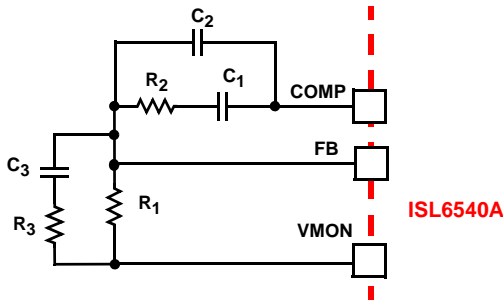
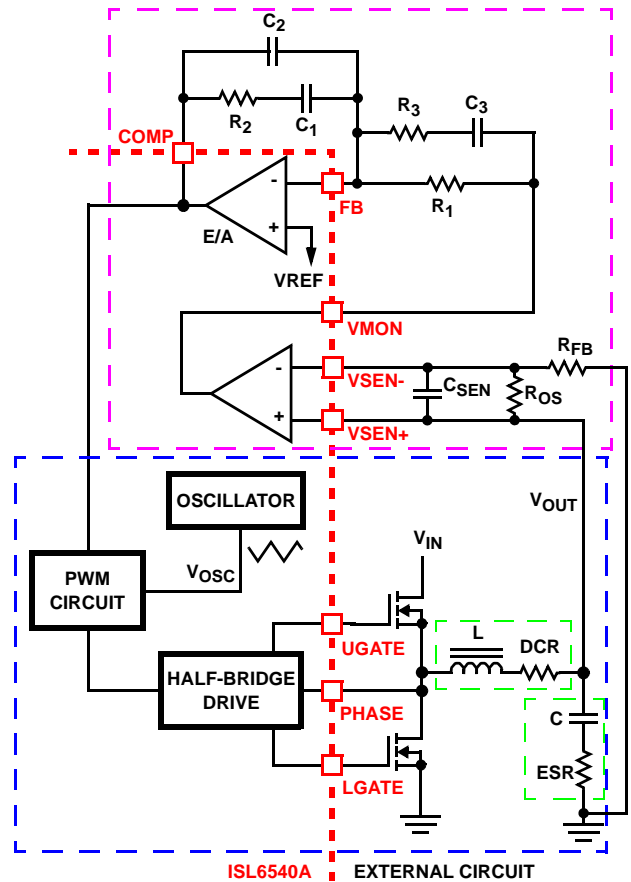

FIGURE 9. COMPENSATION CONFIGURATION FOR ISL6540A WHEN USING DIFFERENTIAL REMOTE SENSE
FIGURE 10. VOLTAGE-MODE BUCK CONVERTER COMPENSATION DESIGN
The ISL6540A single-phase converter is a voltage-mode controller. This section highlights the design considerations for a voltage-mode controller requiring external compensation. To address a broad range of applications, a type-3 feedback network is recommended (see Figure 9).
Figure 10 highlights the voltage-mode control loop for a synchronous-rectified buck converter, when using an internal differential remote sense amplifier. The output voltage (V_{OUT}) is regulated to the reference voltage, V_{REF} , level. The error amplifier output (COMP pin voltage) is compared with the oscillator (OSC) triangle wave to provide a pulse-width modulated wave with an amplitude of V_{IN} at the PHASE node. The PWM wave is smoothed by the output filter (L and C). The output filter capacitor bank's equivalent series resistance is represented by the series resistor ESR.
poles, zeros and gain to the components (R_1 , R_2 , R_3 , C_1 , C_2 , and C_3) in Figures 9 and 10. Use the following guidelines for locating the poles and zeros of the compensation network:
1. Select a value for R_1 (1k Ω to 10k Ω , typically). Calculate value for R_2 for desired converter bandwidth (F_0). If setting the output voltage to be equal to the reference set voltage as shown in Figure 9, the design procedure can be followed as presented. However, when setting the output voltage via a resistor divider placed at the input of the differential amplifier (as shown in Figure 10), in order to compensate for the attenuation introduced by the resistor divider, the below obtained R_2 value needs be multiplied by a factor of $(R_{OS}+R_{FB})/R_{OS}$. The remainder of the calculations remain unchanged, as long as the compensated R_2 value is used.
A small capacitor, C_{SEN} in Figure 10, can be added to filter out noise, typically C_{SEN} is chosen so the corresponding time constant does not reduce the overall phase margin of the design, typically this is 2x to 10x switching frequency of the regulator. As the ISL6540A supports 100% duty cycle, d_{MAX} equals 1. The ISL6540A also uses feedforward compensation, as such V_{OSC} is equal